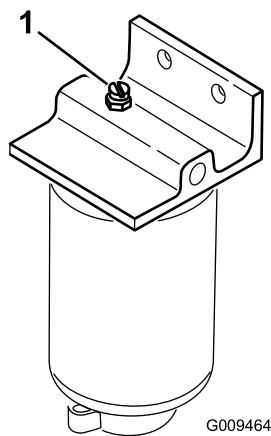

Figure 43
3. Open the vent plug on the fuel/water separator (Figure 43)